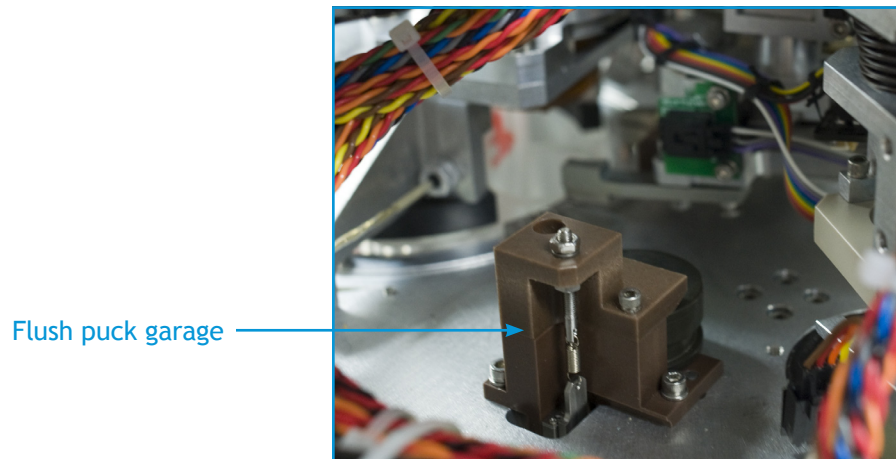

Figure 5-7: Flush puck garage
1. Using a 3/32" ball-end Allen wrench, unthread the three screws that secure the base of the Flush Puck Garage to the ESP. See Figure 5-7.